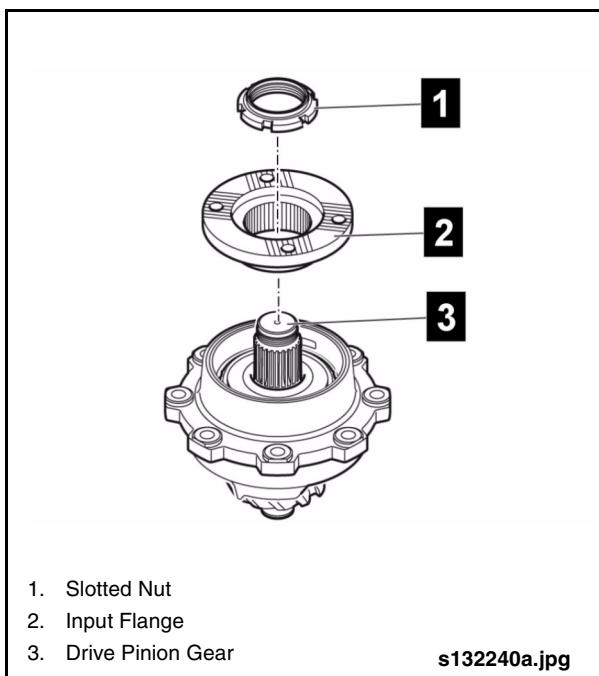

Fig. 2-83: Installing Input Flange Without Seal
1. Install input flange on drive pinion gear without radial shaft seal. See "Fig. 2-83: Installing Input Flange Without Seal" on page 68.